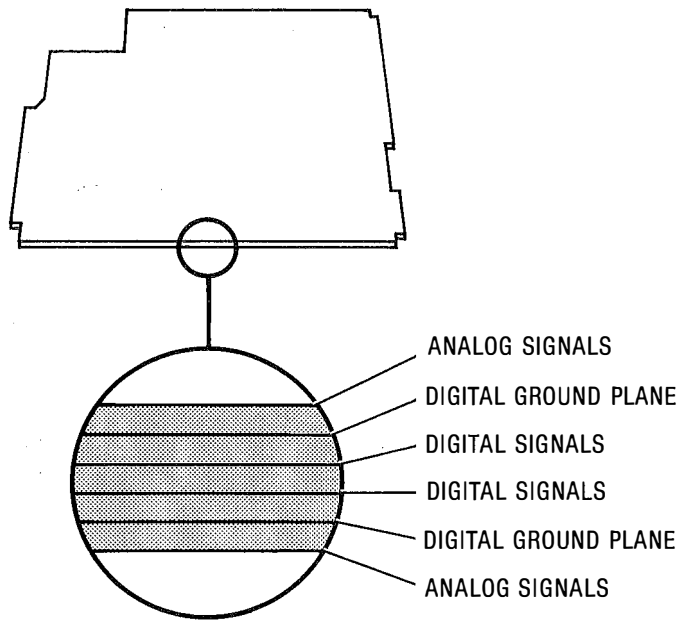

Figure 8E-1. A62 Motherboard Cross Section
- ☒ The A62 Motherboard Component Location Diagram (Figure 8E-2).
- ☒ **GND PLANE** - Refer to Figure 8E-1, A62 Motherboard Cross Section for the following explanation.
As shown in Figure 8E-1, A62 Motherboard Cross Section, the GND PLANE exists between the two innermost and two outermost Motherboard printed circuit layers. These layers were designed to disperse any digital noise into the GND PLANES and act as an electrostatic shield between the digital and analog signal traces. The GND PLANES extend to each edge of the Motherboard and are connected to STAR GND. With this scheme, isolation between analog and digital grounds is maximized and signal crosstalk minimized.